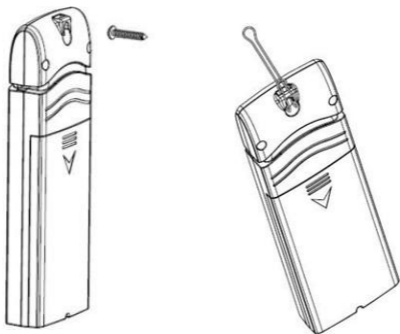

Figure 4: Sensor mounting
- Use a screw or nail to affix the remote sensor to the wall, as shown on the left side of Figure 4, or
- Hang the remote sensor using a string, as shown in right side of Figure 4.